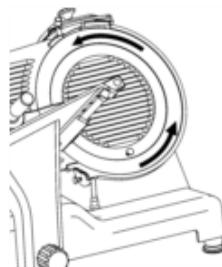

Fig. 16
- Check the rotating blade direction by pressing the button “**ON**“ (I) of the device ON/OFF switch (13) and immediately after that press the black button STOP “**OFF**“ (O) and switch off the device.
- When looking from the side of the blade protection, the blade should be rotating clockwise (fig. 16).